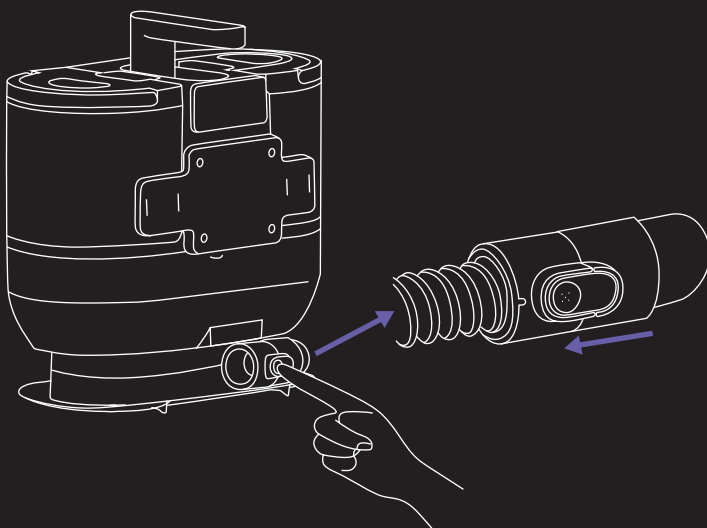

Fig. 4
5. To disassemble, hold the flexible hose latch with one hand, press the flexible hose latch with the other hand to unlock it, and then pull to detach (Fig. 4).